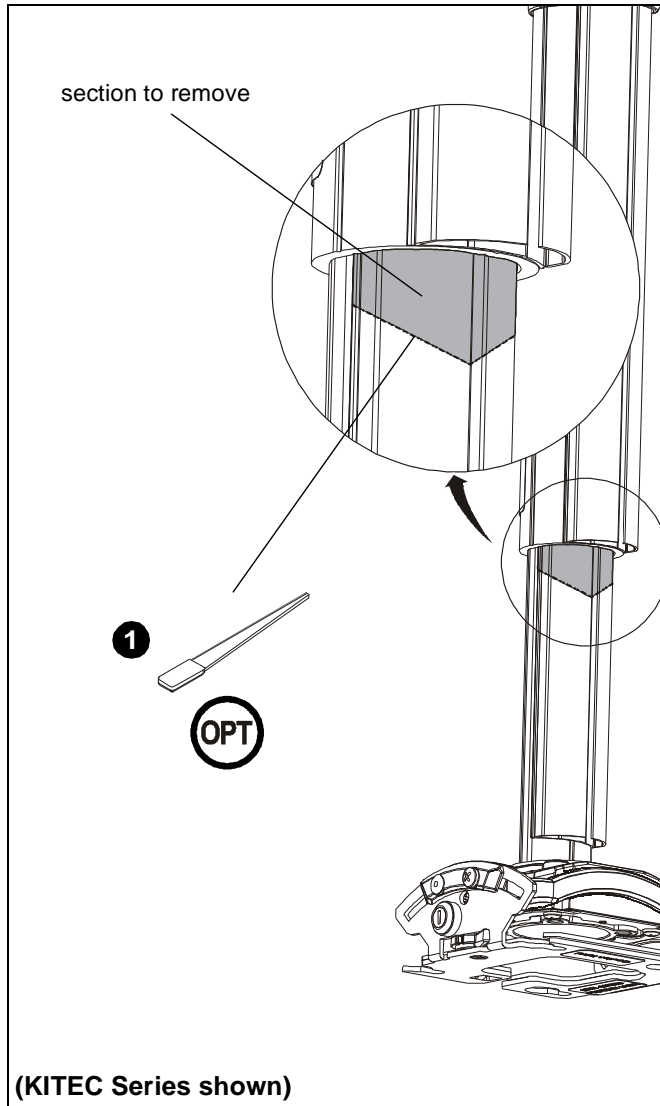

Figure 27
1. **(Optional)** Use a utility knife to cut a section of lower cable cover off to create a larger space for the cables to transition into the upper cable cover. (See Figure 27)